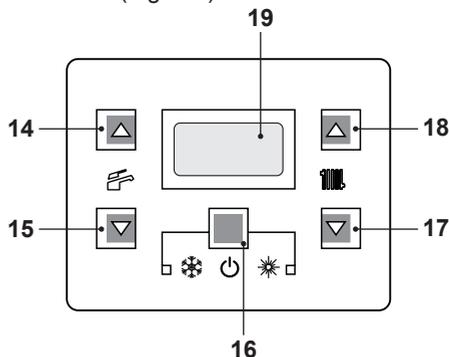
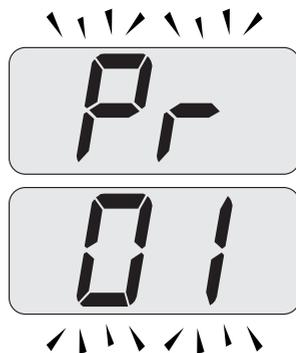
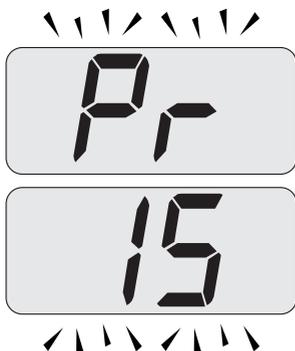

Fig. 8.7
Fig. 8.8
Fig. 8.9
- Enter in "programming mode" by sequentially pressing and holding keys 16 - 17 - 18 (Fig. 8.7) for 10 seconds at the same time until the letters **Pr** that alternate with code 01 are displayed on the LCD display, indicating that "parameter 01", has been activated (Fig. 8.8).
- Scroll the various parameters using keys 17 or 18 until the letters **Pr** that alternate with code 15 are displayed on the LCD display, indicating that "parameter 15" (Fig. 8.9) has been activated.
- Press keys 16 and 18 (Fig. 8.7) at the same time until the value of parameter 15 (Fig. 8.10) is displayed on the LCD display.
- By pressing key 16 (Fig. 8.7) confirmation of the inserted value is obtained.
- Press keys 16 and 17 (Fig. 8.7) at the same time to exit without changing the value (return to the parameters list Fig. 8.9).
- Press sequentially keys, 16 - 17 and then 18 (Fig. 8.7) and hold in for 10 seconds to exit the "programming mode".
However, if the ambient temperature is not comfortable, the flow temperature of the heating system can be increased or reduced by $\pm 15^{\circ}\text{C}$ by pressing the keys 17 (reduce) and 18 (increase) (Fig. 8.7).